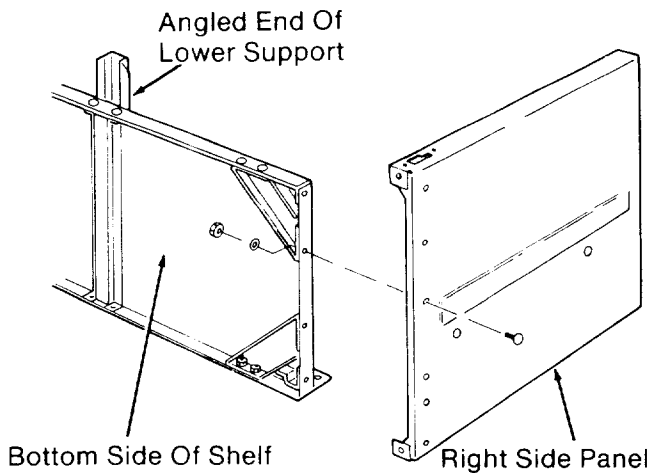

Fig. 52
19. Place the *right side panel* on the right side of the *shelf*. The *spacer* should be on the inside of the cabinet. (Figure 52)
20. Put bolts through the four holes along the bottom edge of the *right side panel*. Put a lockwasher and hex nut on each bolt and tighten using a 7/16 inch wrench or socket. (Figure 52)